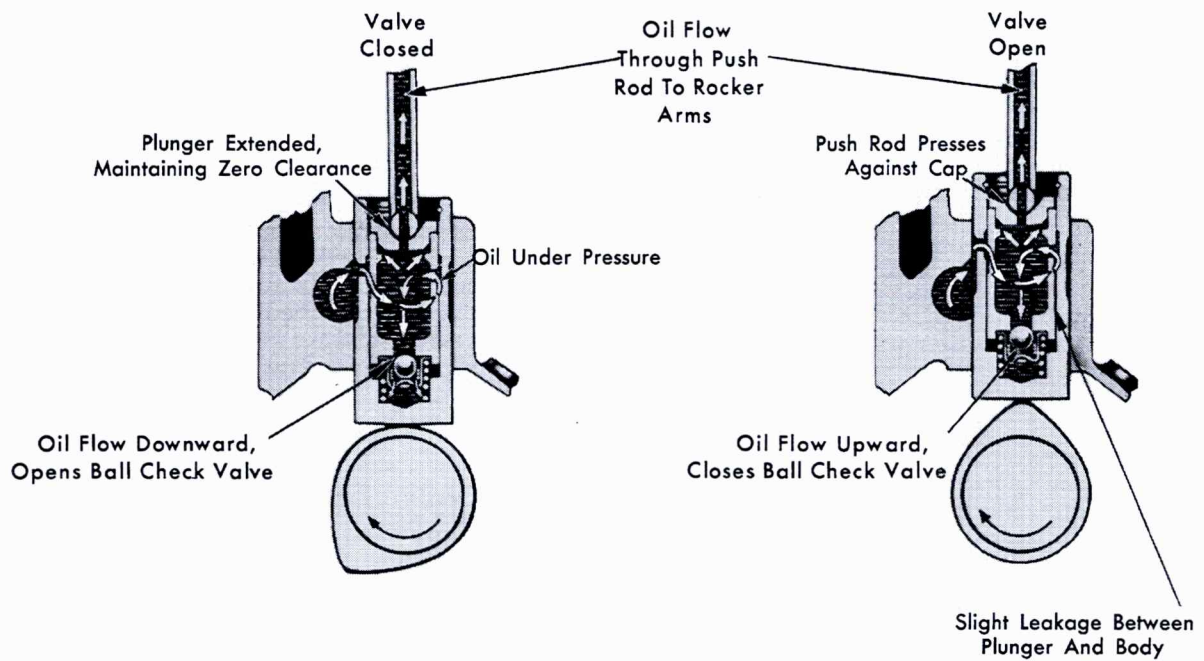

Fig. 6-107 Valve Lifter Mechanism
4. Incorrect clearance between cylinder and plunger, usually caused by mismating of parts. These parts are selectively fitted in manufacturing and are not interchangeable, Fig. 6-107.